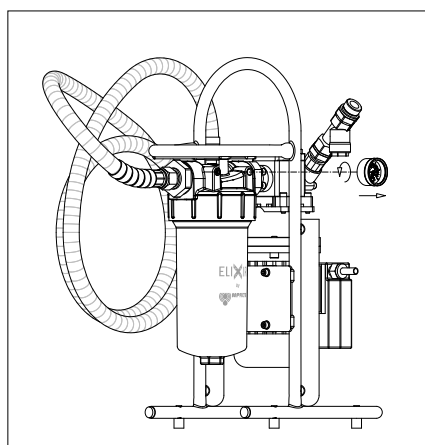
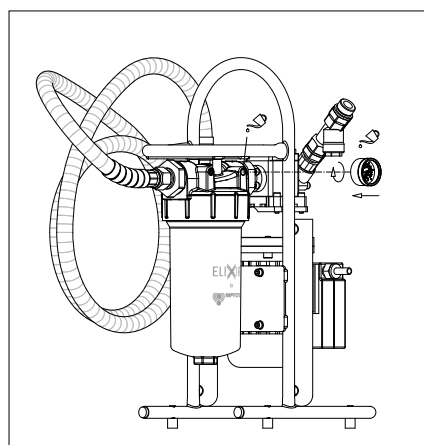

fig. 10
fig. 11
- For the disassembly and the assembly of the parts, please see fig. 10 to 11
- (Fig. 10) Unscrew the pressure gauge after having moved the pipe IN from it seat to facilitate the manoeuvre of the open-end wrench
- (Fig. 11) Apply some PTFE hydraulic sealant on both threads, then screw the pressure gauge (please see fig. 10 to 11)